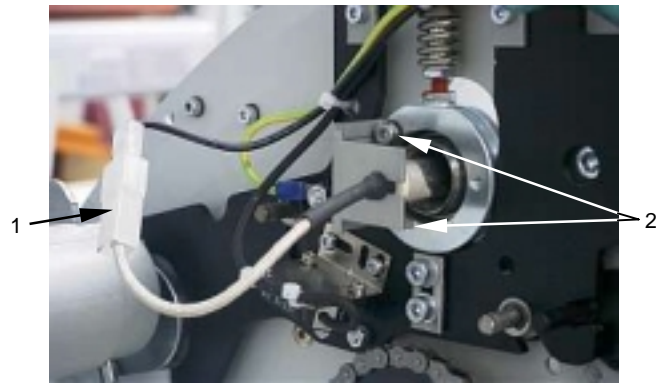

fig. 11
- See figure 11. Disconnect the white connector 1, located on the right-hand side of the machine from the heater wire. Remove the heater bracket by removing the two bolts 2. Take care not to lose the serrated washers.